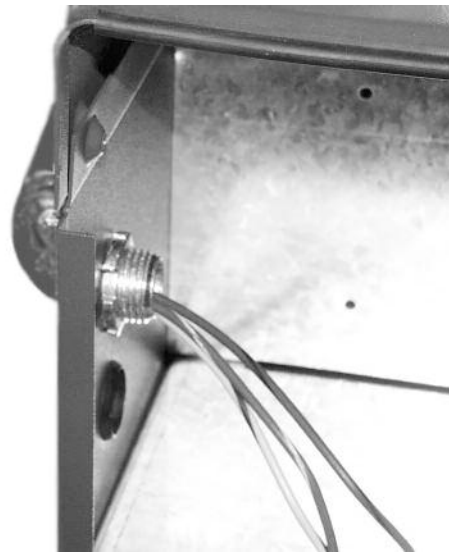

Fig. 14
16. Install the left side outdoor conduit through the top 7/8" hole located on the left side of the heater. See Fig. 14. Note: You must first remove the 7/8" plug on the heater to install the conduit.